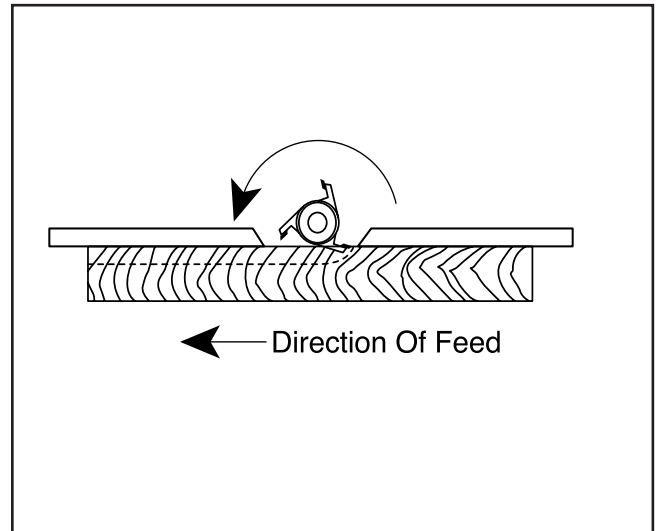

Figure 22. Fence adjustment for blind cuts.
4. Run a test piece through the shaper as shown in **Figure 22**.